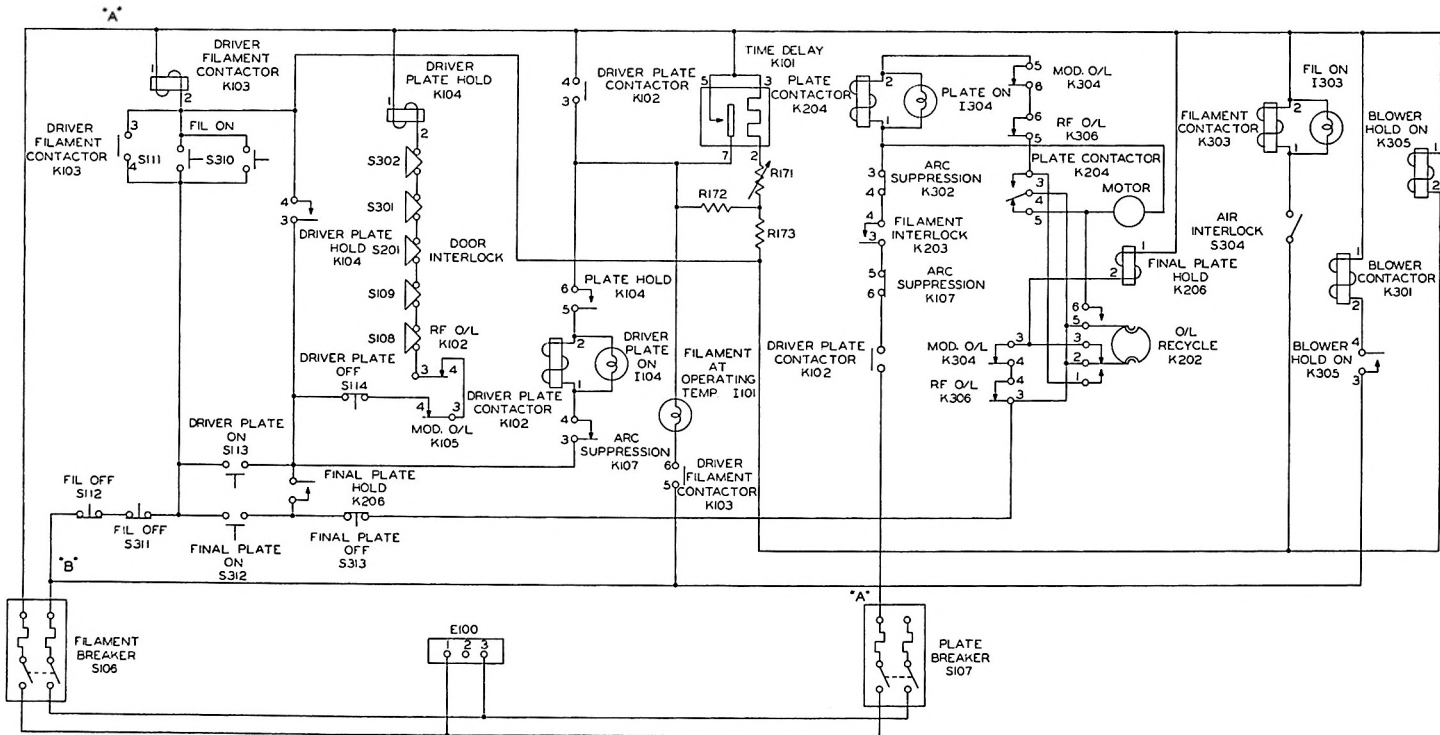

Figure 4-4. Control Circuits, Simplified
4.4.2 FILAMENT. (See figure 4-4.) Phase A is applied to the coil of filament relay K103 directly. Phase B is applied to the coil through FILAMENT OFF buttons S112 and S113 when either FILAMENT ON button S111 or S310 is pressed. When filament relay K103 closes, contacts K103-3 and 4 bridge the FILAMENT ON buttons and hold the filament relay. The filaments of the driver stages immediately light, and
### 4.4.3 PLATE. (See figure 4-4.)
In succession, the driver filaments and blowers will come on, the PA blower will come on, the PA filaments will come on, and then the driver plate and PA plate will come on. (Refer to figure 4-4.) Pressing the PA PLATE ON button will energize PA plate hold relay K206 by the circuit at phase B of S112, S311, S312, S313, K306-3 and 4, K304-3 and 4, to the relay coil. Phase A is connected directly. This relay is held by its contacts K206-3 and 4, which are responsible for energizing of driver plate hold relay K104 through S112, S311, S312, K206-3 and 4, S114, K105-4 and 3, K106, 4 and 3, S108, S109, S201, S301, S302 to the coil of K104. Contacts 3 and 4 of driver plate hold relay K104 now energize driver filament contactor K103 to light all filaments and start the heater element of time delay relay K101. Contacts K104-3 and 4 now become K104 holding contacts. Now, because the two plate hold relays K104 and K206 are already operated and held, the driver plate will come on at the end of the K101 delay period, and contacts 5 and 6 of driver plate contactor K102 will start a PA plate turn-on cycle by energizing the motor of K202.
### 4.4.4 OVERLOAD CIRCUITS. (See figure 4-4.)
Refer to the control circuit schematic, figure 4-4. Contacts 3 and 4 of K107 are connected in series with the coil of driver plate contacts K102. Contacts 5 and 6 of K107 and 3 and 4 of K302 are connected in series with the coil of plate contactor K204. Should an arc